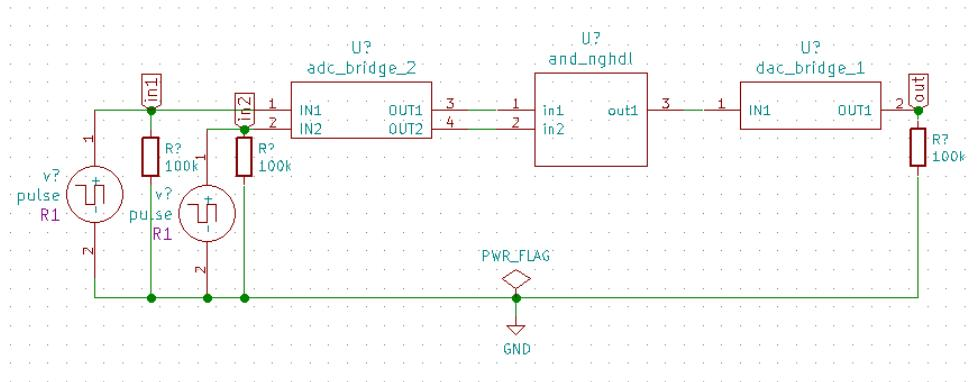

Figure 10.10: Example of an AND gate characteristics circuit
- Now create the schematic as shown in Fig. 10.10, annotate, perform ERC, create the netlist and save the schematic by following the steps given in Chapter 5.